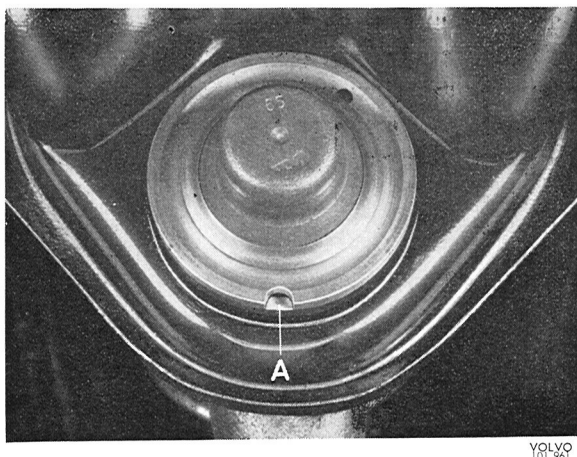
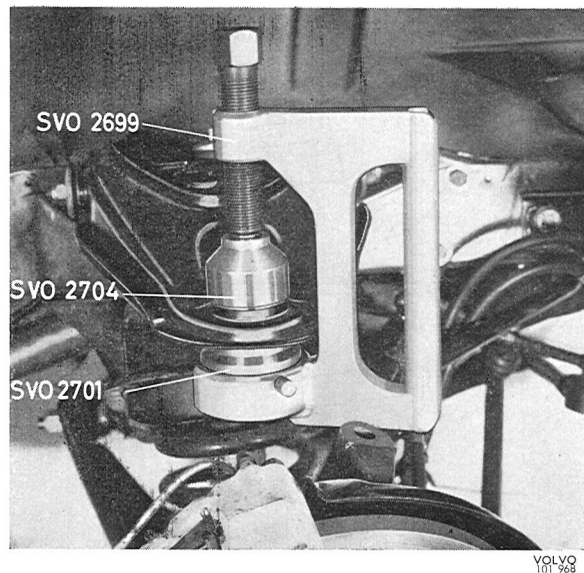

Fig. 6-24. Location of upper ball joint
Fig. 6-25. Fitting upper ball joint
1. Before installing the ball joint, check that the rubber cover is filled with grease. Bend the pin end over the slot, see Fig. 6-24. Check that the grease forces its way out. If necessary top up with multipurpose grease.
2. Press the ball joint into the control arm with press tool 2699, sleeve 2701 and drift 2704, see Fig. 6-25. Make sure that the ball joint recess comes in line with the longitudinal shaft of the control arm (Within  $\pm 8^\circ$ ) either externally or internally, see Fig. 6-24, as the pin has maxi-